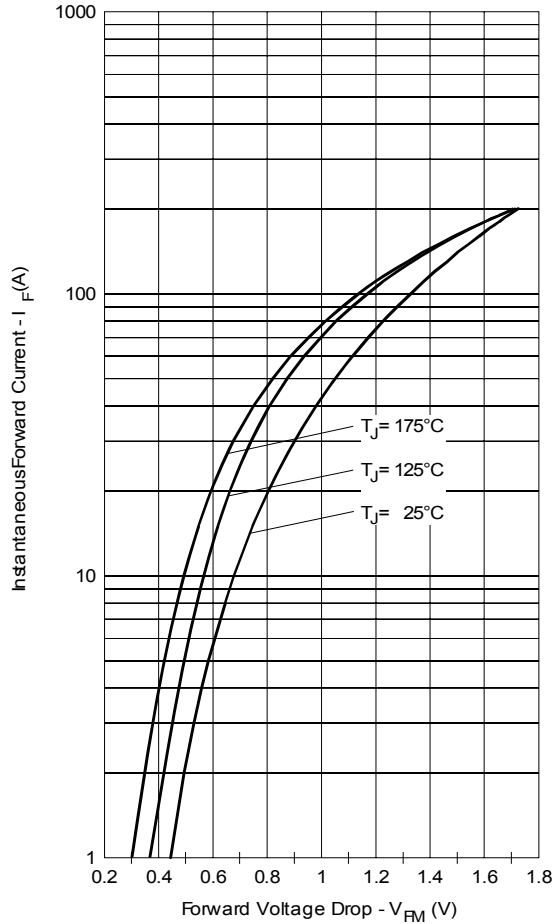

Fig. 1 - Max. Forward Voltage Drop Characteristics (Per Leg)
| V_{FM} Max. Forward Voltage Drop (Per Leg) * See Fig. 1 (1) | 0.81 | V | @ 20A $T_J = 25^\circ\text{C}$ |